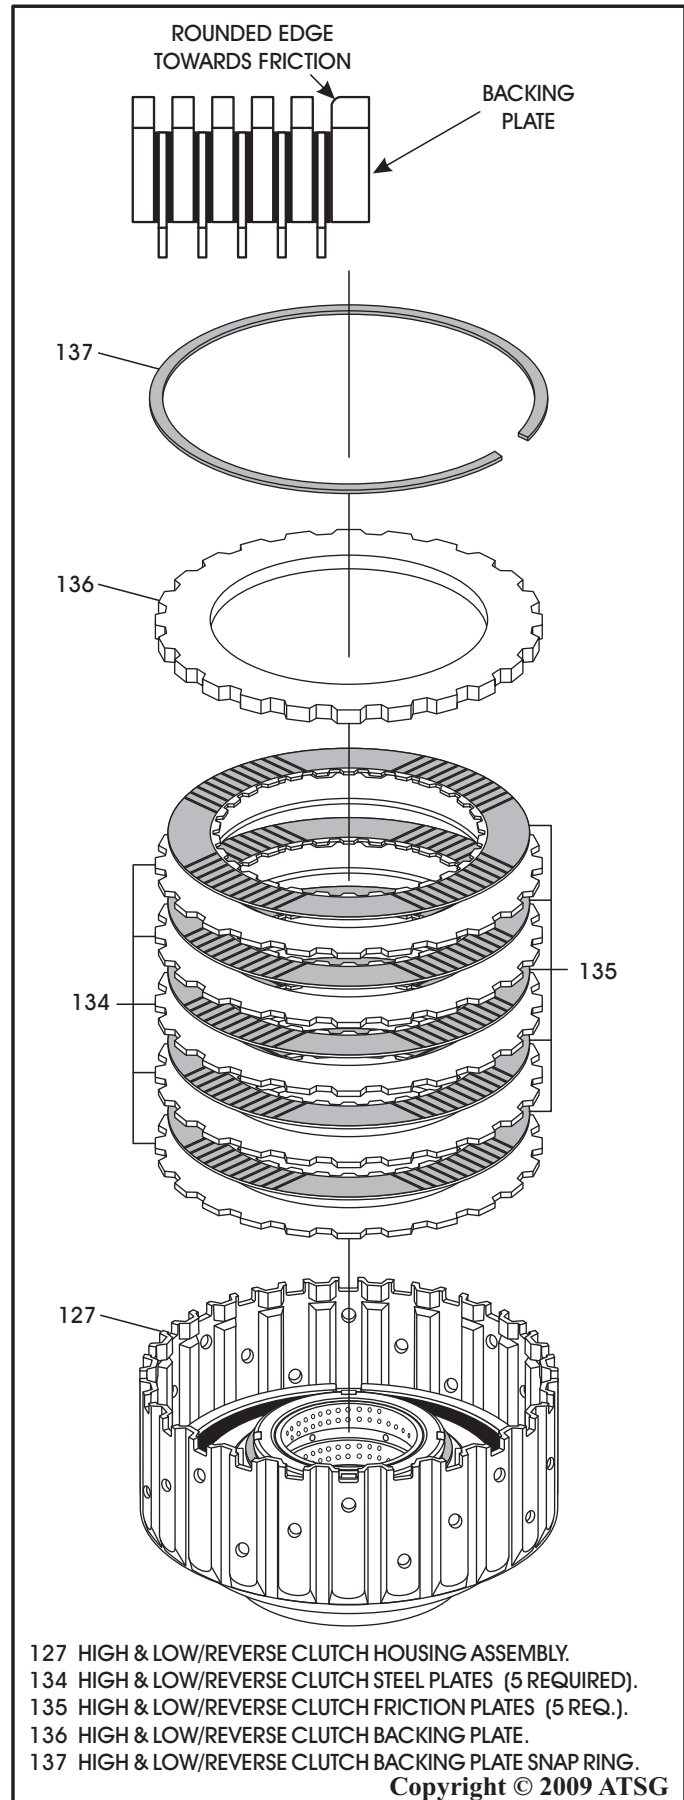

Figure 135
9. Install the high and low/reverse clutch plates beginning with a steel plate and alternating with a friction, as shown in Figure 135.
10. Install the high and low/reverse clutch backing plate, as shown in Figure 135, with the rounded edge facing the friction.
11. Install the high and low/reverse backing plate snap ring, as shown in Figure 135